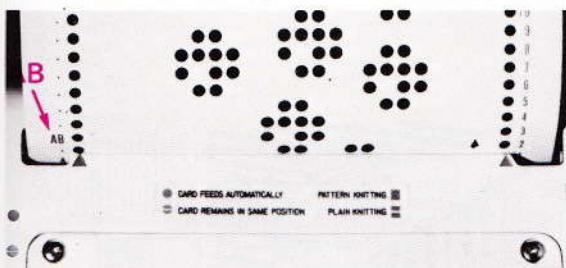

Fig. 111
- The symbols must be read as they appear above the card slot, not when they are below it (fig. 111).